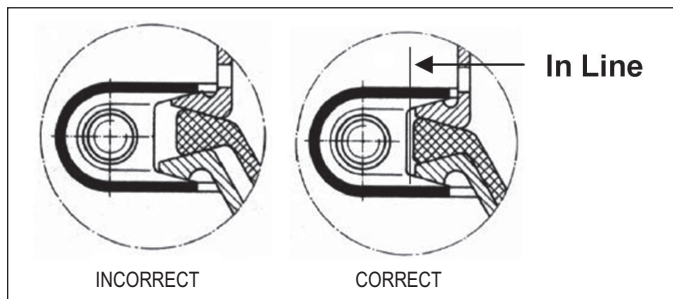

FIGURE 5 - CORRECT DIAPHRAGM POSITION
7.0.7 Make sure that the diaphragm is properly aligned and seated. *See Figure 5.* Be sure that the service diaphragm is fully inserted into the clamp.
9.4 Assemble the service clamp assembly. Ensure all parts are seated properly and remain centered (See Figure 5).
12.0.6 Line up the spring brake chamber, the service diaphragm, and the non-pressure housing, ensuring that they are centered (see *Figure 5*).